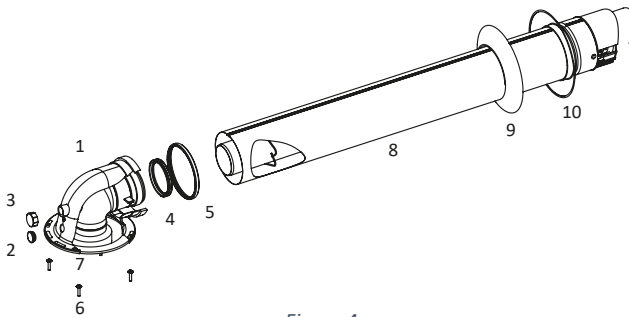

Figure 4
- The hermetic flue set is delivered in a cardboard box separate from the device. The standard hermetic flue set (Ø60/100 or Ø80/125) consists of the following parts (Figure 4).